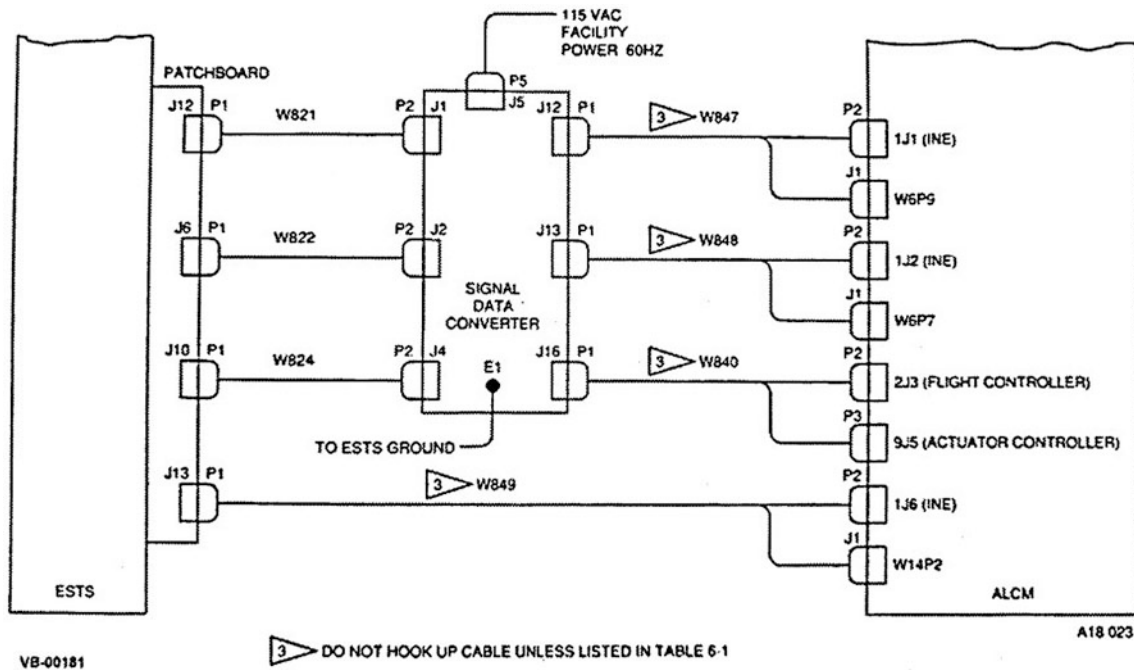

Figure 3-9. Wiring diagram example (Level II test hookup).
Let us look at the wiring diagram example of the Level II test hook up (fig. 3-9). You can see that plugs (P) and jacks (J) are used to connect the cable wires (W) to the ESTS patchboard, signal data converter (SDC), and missile assemblies. When W849 is used, you can see it connects at the ESTS patchboard at J13. At the other end of W849 are P2 and J1. P2 connects to the missile INE at 1J6 while J1 connects to W14P2 on the missile.
4. Interpret which three cable wires connect the ESTS patchboard to the SDC using Figure 3-9, Wiring diagram example (Level II hookup).